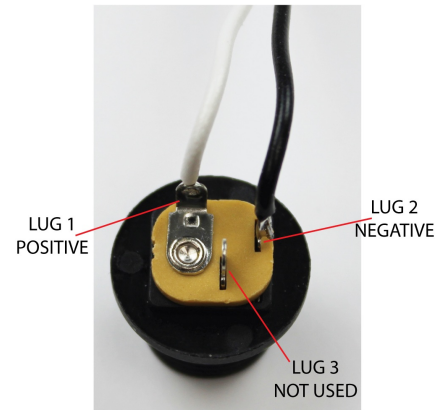

fig 7
- 5) Put the 12mm internal tooth on the power jack and insert the power jack through the hole in the back wall of the box. Tighten the power jack using a 14mm wrench (figures 7 and 9).